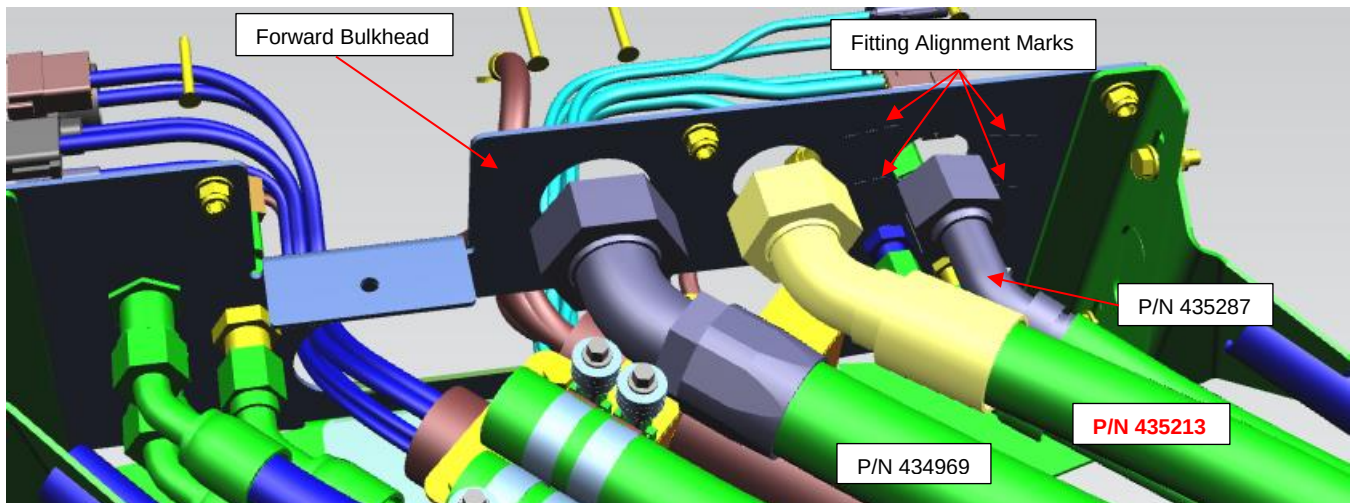

Figure 5: A/C hose & alignment marks at forward bulkhead reference.
13. At the forward bulkhead, reconnect the hoses to their respective connection points. Note that there are alignment marks on the bulkhead for orienting hose P/N 435213. See figure 5.